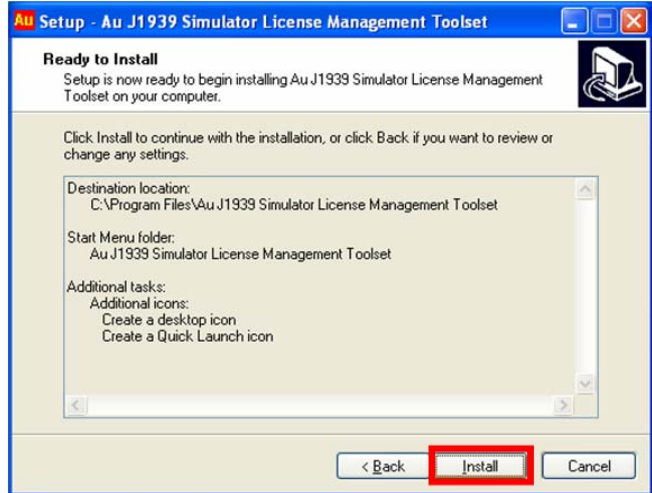

Figure B-7
7. "Ready to Install" window shows up, click "Install", as shown in Figure B-7.